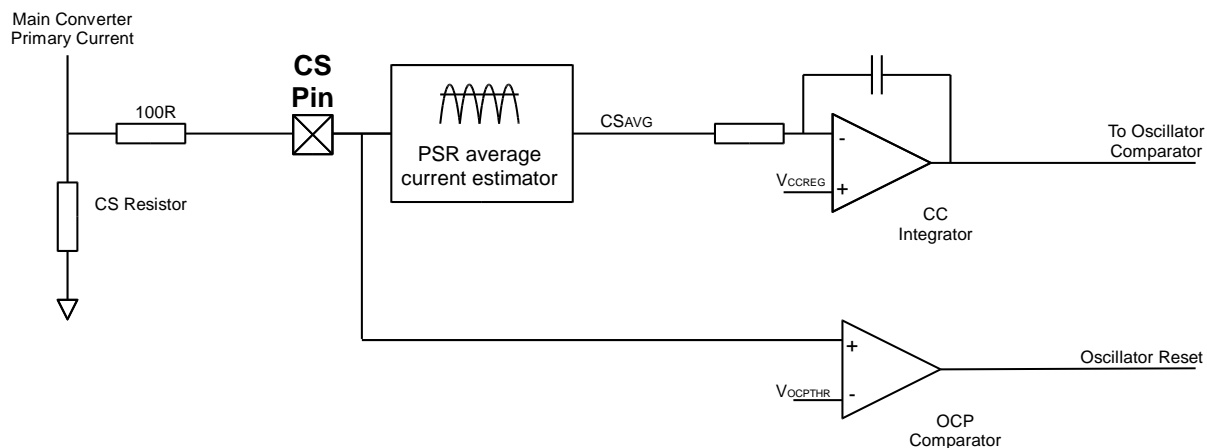

Figure 7: RED2521 Current protection and control circuits
Figure 7 shows the two current control methods used in the converter:
Shown in figure 7 the signal from the CS pin is divided into two different paths. The bottom path provides peak instantaneous over-current protection (OCP) while the PSR Average Current estimation block provides the current regulation (CC) information. The voltage on the CS pin is an AC signal biased around GND. Inside the PSR block this signal is processed to provide a voltage proportional to the average converter output current.
The RED2521 has an improved CC regulator that is better able to compensate for incoming mains ripple. This means there is no 100/120Hz visible flicker present on the LED. A functional diagram of the CC regulation circuit is shown in Figure 7. CC operation is defined by an internally compensated control loop that provides a system response time of approximately 150us in a typical application. The average current regulation point,  $V_{CCREG}$  is pre-set to 150mV, referred to the CS pin.